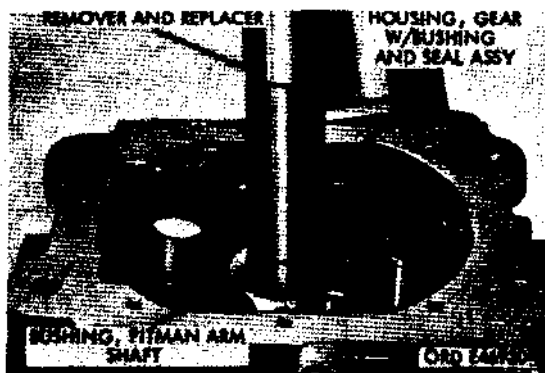

Figure 164. Installing inner pitman arm shaft bushing
- (2) Press new inner pitman arm shaft bushing (N) in flush with gear housing (fig. 164), using remover and replacer 5120-795-0137.